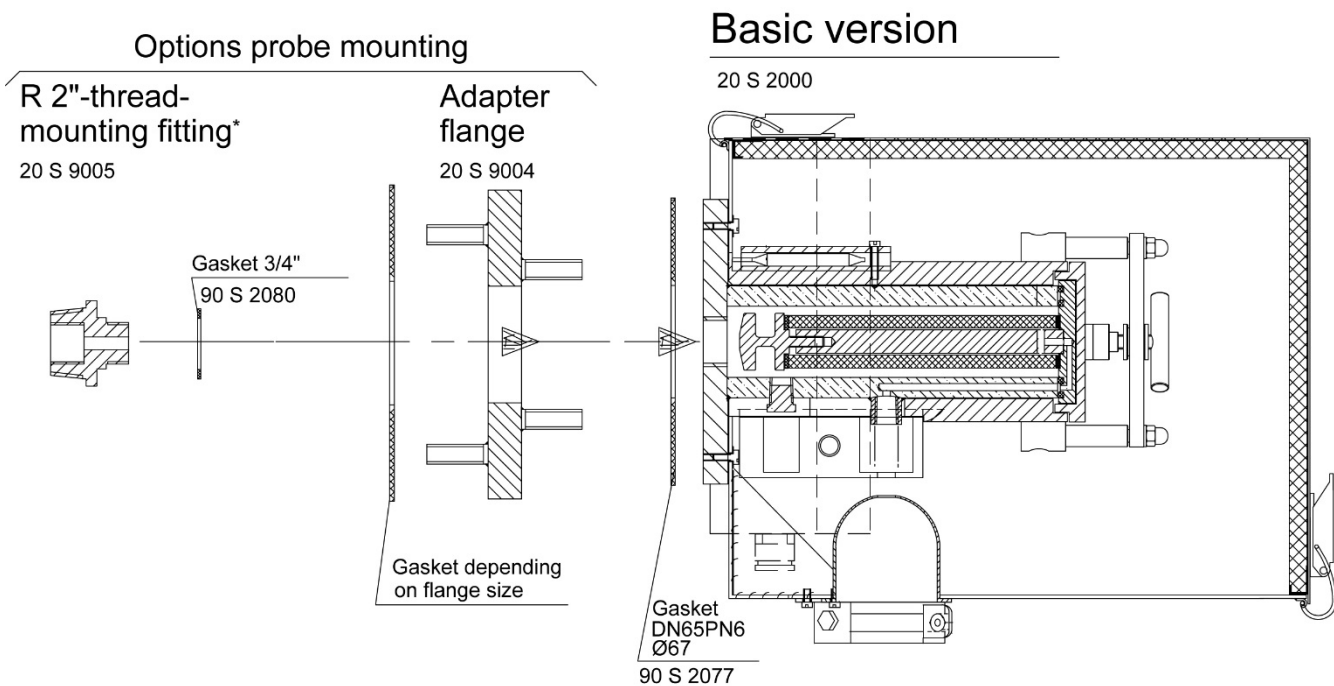

Figure 2 Mounting possibilities SP2000..., SP2300-H, SP2400-H
3. If the probe connection does not correspond to the standard flange connection DN 65 PN 6, then the optionally supplied adapter flange (Figure 2 and Figure 6) should be mounted to the probe in the same way.